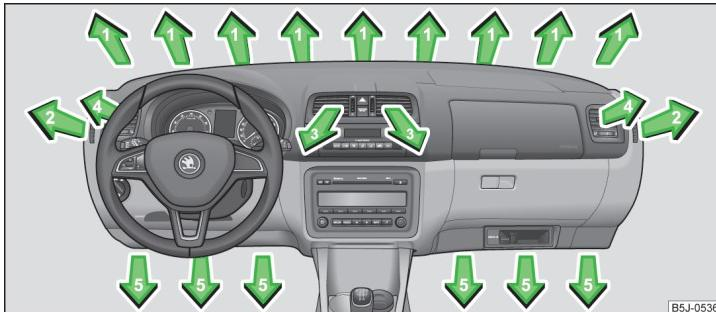

Fig. 94 Air outlet vents
The direction of airflow can be adjusted using the air outlet vents **3** and **4** » Fig. 94 and the outlets can also be opened and closed individually.
Turn the vertical wheel (air vents **3**) » Fig. 94 or the horizontal wheel (air outlet nozzles **4**) to the position.
Turn the vertical wheel (air vents **3**) » Fig. 94 or the horizontal wheel (air outlet nozzles **4**) to the **0** position.
- In order to change the strength of the air flow, swivel the horizontal lamellas with the aid of the moveable adjuster » Fig. 94.
We recommend that you leave the air outlet vents 3 » Fig. 94 on page 86 in the open position in all operating modes.